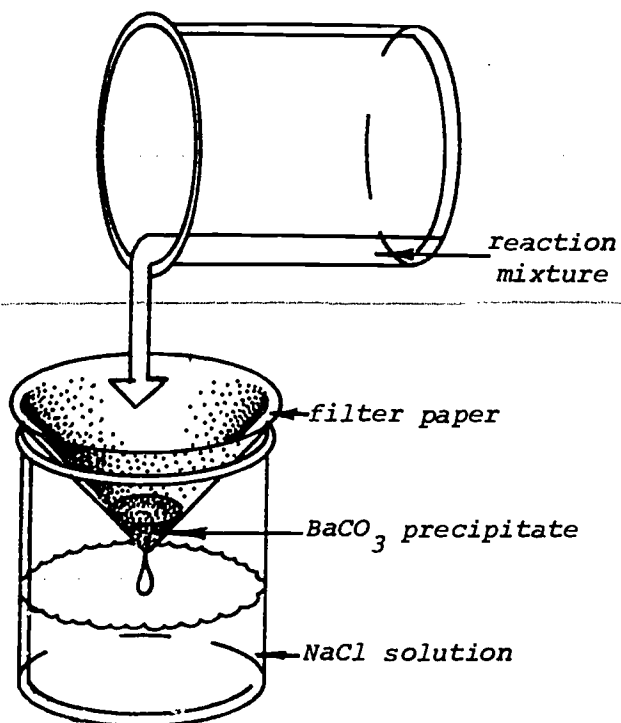

FIGURE 2: *Filtration of reaction mixture.*
7. Place the filter in the weighed beaker, and pour the reaction products through the filter paper as shown in Figure 2 on the next page. Again, use a small amount of water to rinse out the beaker and pour it through the filter. The filtering process will take approximately thirty minutes.